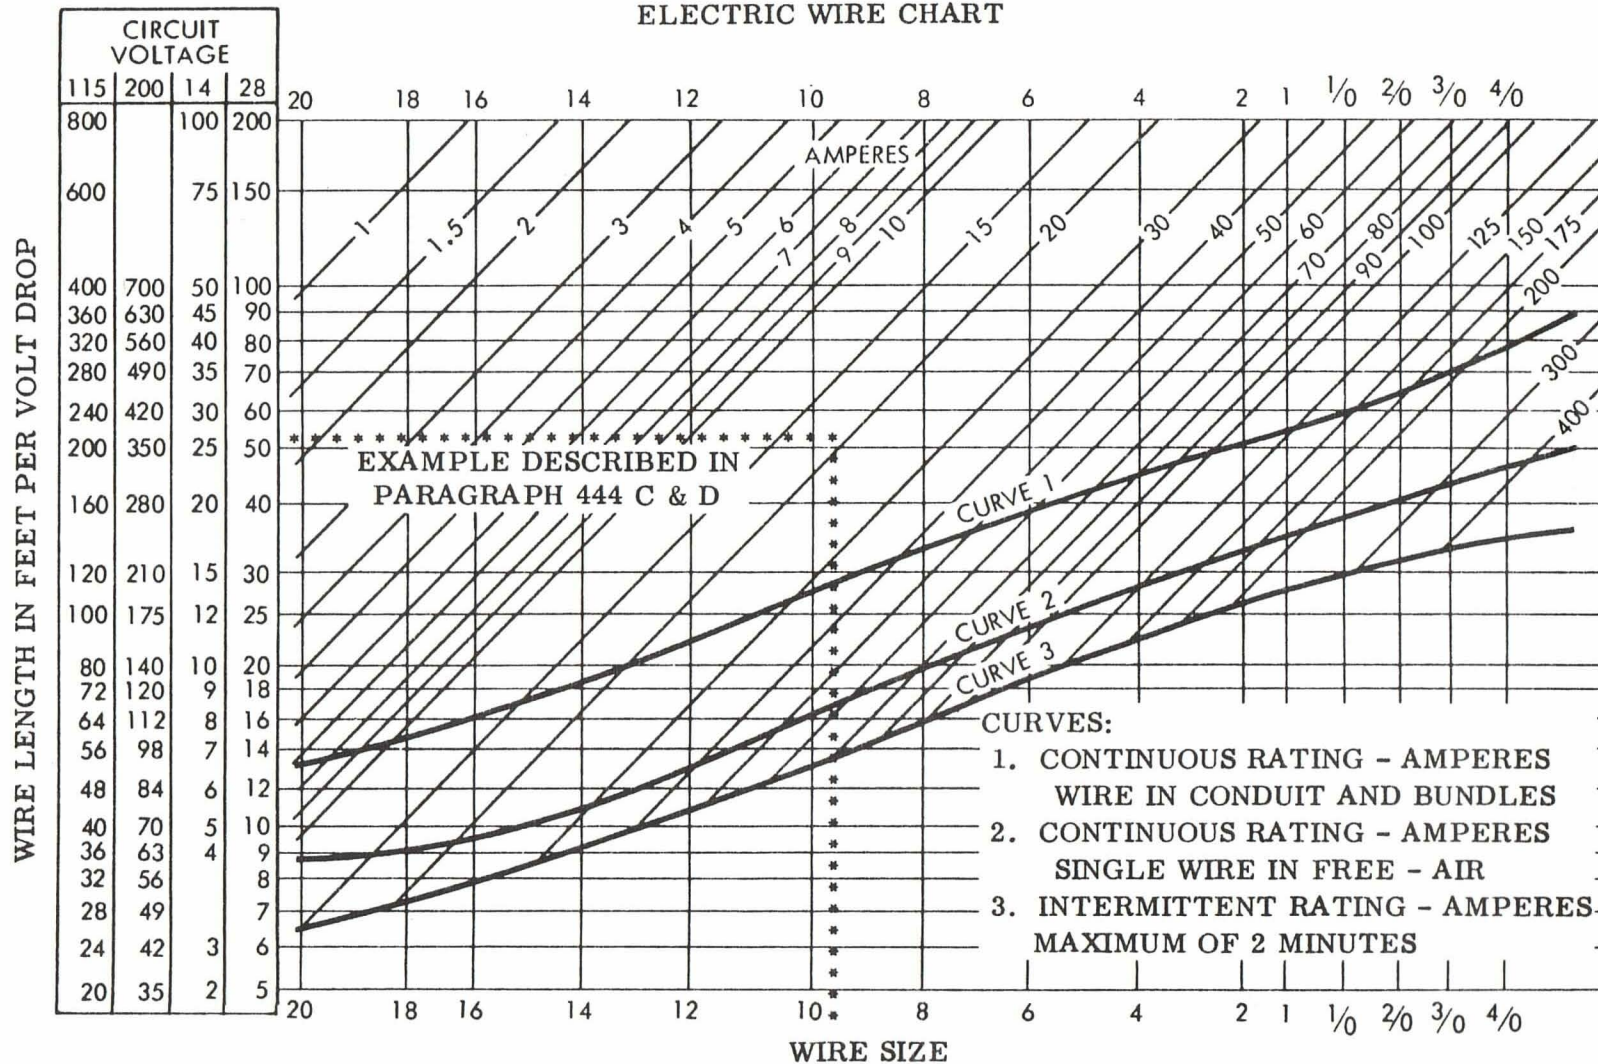

Figure 11.7
(1) The size must be sufficient to prevent an excessive voltage drop while carrying the required current over the required distance.
(2) The size must be sufficient to prevent overheating of the wire while carrying the required current.
b. To simplify these determinations an electric wire chart (figure 11.7) may be used. In order to use this chart properly for the selection of wire we must know:
(1) the length in feet of the actual wire "run" from the bus to the equipment;
(2) the number of amperes of current it must carry;
(3) the amount of voltage drop permitted (see tabulation, paragraph 442a); and
(4) whether the current carried will be intermittent (maximum 2 minutes) or continuous, and if continuous, whether it is a single wire in free air, in a conduit, or in a bundle.
c. Assume that we wish to install a 50-foot length of wire from the bus to the equipment in a 28-volt system. By referring to the "allowable voltage drop table" (paragraph 442a), we find that we are permitted a 1-volt drop for continuous operation. Now referring to the "electrical wire chart" (figure 11.7), we find along the left side values numbered 5 to 200 showing the number of feet a wire may be run while carrying a given current, with a 1-volt loss or drop. Place a pointer on the horizontal line shown opposite the number 50.